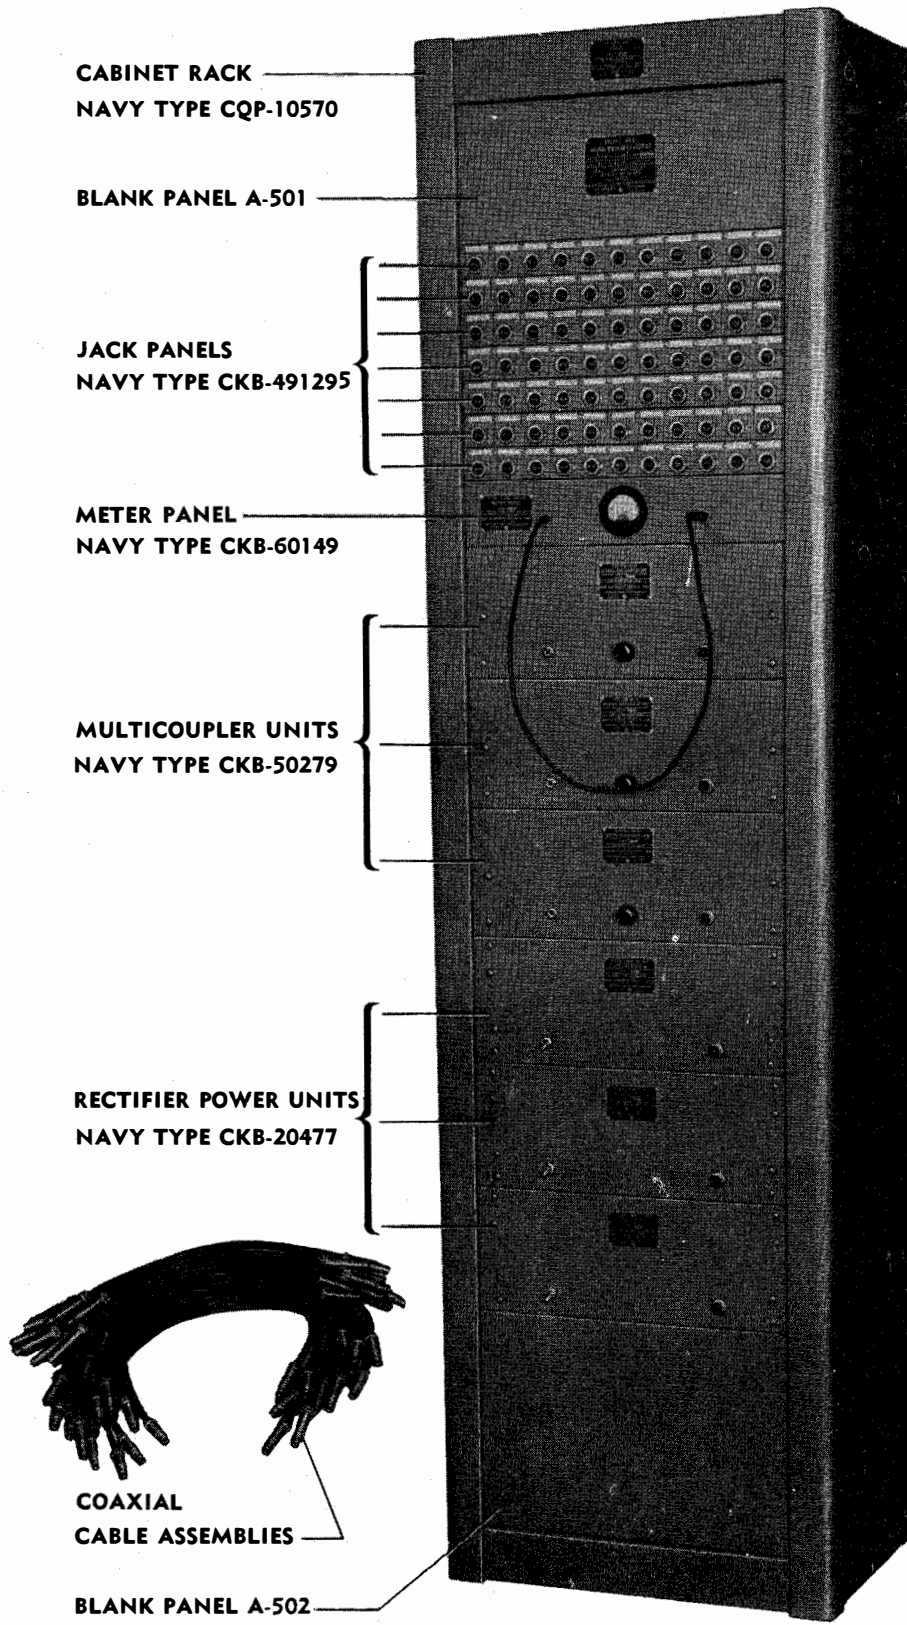

Figure 1-1. Model RXA Antenna Multicoupler Assembly, Complete Equipment
Model RXA Antenna Multicoupler Assembly consists of the units illustrated in figure 1-1. This equipment is designed for use with Navy Communication receivers within the frequency range from 4 to 24 megacycles. Each of the three multicoupler units furnished with the equipment permits the use of from one to ten Navy communication receivers on one antenna. The entire equipment is capable of operating a total of thirty receivers on three antenna systems.
*f.* ANTENNA AND RECEIVER PATCH CORDS. (See figure 1-1.)—Thirteen 18-inch patch cords and twenty 36-inch patch cords are furnished with the equipment to be used as required by operating personnel. Each patch cord is equipped with two Navy type C-49121-A concentric connector plugs.
*g.* BLANK PANELS. (See figure 1-1.)—One size "D" blank panel and one size "G" blank panel are furnished with the equipment to fill in the unused panel space on the cabinet rack.